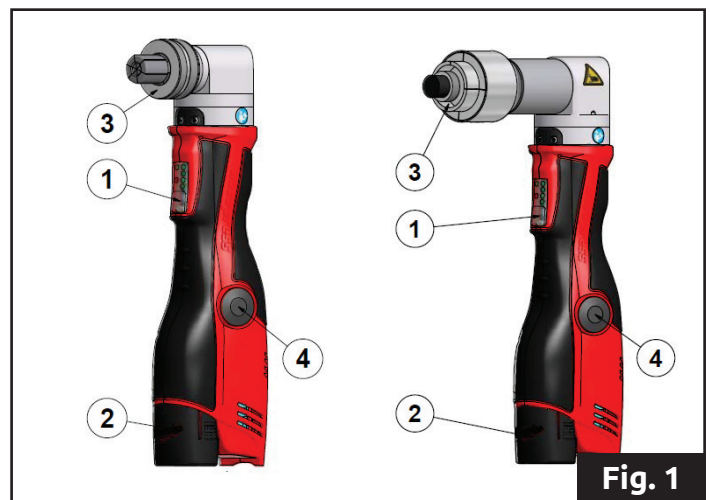

Fig. 1
The expander features positive control. During expansion, the expander remains in the position reached, even if the start button (1) (fig. 1). is temporarily released. When the intended switch-off force is achieved, it is perceptible by means of an increase in the motor speed and a discernible decrease in pressure. When the start button (1) (fig. 1) is released, the device returns to its initial position. For safety reasons, the positive control is only activated after a minimum force has been attained. Until this force is achieved, the expansion process can be interrupted at any time by releasing the start button (1) (fig. 1). The device then automatically returns to its initial position.
The release button (4) (fig. 1) is used to return the tool to its initial position before the expansion process has been completed. In order to do this, press the release button (4) (fig. 1) until the expander head (3) (fig. 1) has moved back completely.